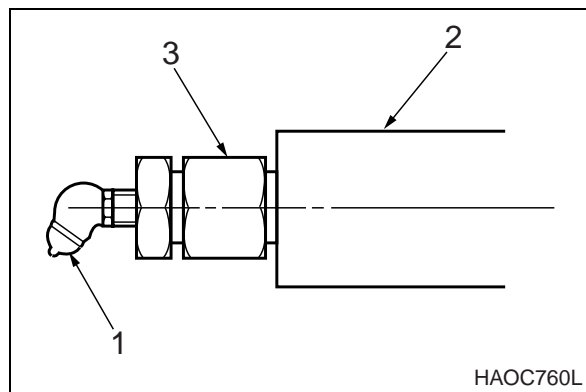

Figure 3
- Track tension adjustments are made through the grease fitting (1, Figure 3) in the middle of each side-frame. Adding grease increases the length of an adjustment cylinder (2). The longer the adjustment cylinder, the greater the pressure on the tension spring pushing the track idler wheel outward.
- If there is not enough slack or clearance in the tracks and the adjustment is too tight, the idler wheel and adjusting cylinder can be retracted by bleeding off grease thru hole in adjustment cylinder (2, Figure 3).